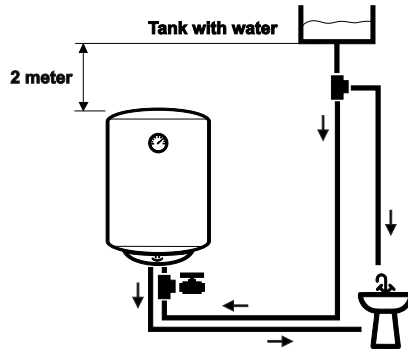

Fig. 2 Connection scheme to open tank filled with water
6.2.8. Connection to open tank filled with water (Fig. 2). Water is supplied to the water heater from the tank by gravity. Safety valve is not necessary in this type of connection.